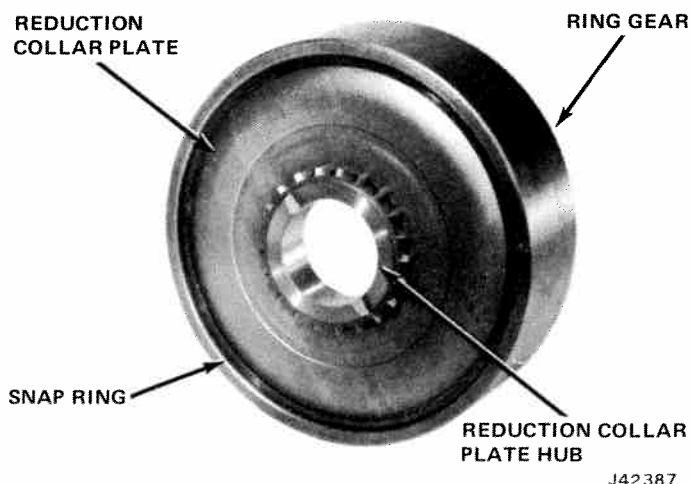

Fig. 8-36 Reduction Collar Plate
(25) If separated, assemble reduction collar plate hub and ring gear to reduction collar plate as shown. Be sure snap rings seat completely in their grooves (fig. 8-36).